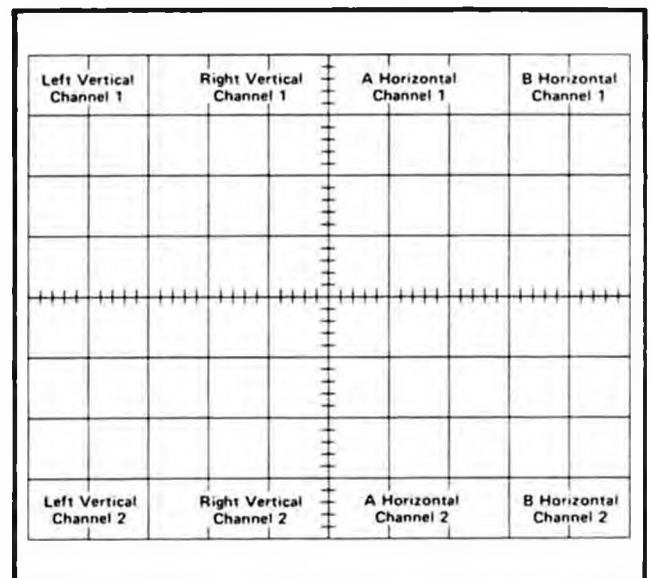

Fig. 3-37. Location of readout words on the CRT identifying the originating plug-in and channel (one complete frame shown, simulated readout).
**Frame**—A frame is a display of all words for a given operating mode and plug-in combination. Up to eight words can be displayed in one frame. Fig. 3-37 shows one complete frame (simulated readout) and the position at which each of the eight words is displayed.
**Display Format.** Up to eight words of readout information can be displayed on the 7704 CRT. The position of each word is fixed and is directly related to the plug-in unit from which it originated. Fig. 3-37 shows the area of the graticule where the readout from each plug-in unit is displayed. Notice that channel 1 of each plug-in unit is displayed within the top division of the CRT and channel 2
The Character Generator stage produces the characters which are displayed on the CRT. Any of the 50 characters shown on the Character Selection Matrix of Fig. 3-37 can be addressed by proper selection of the column and row current. Only one character is addressable in any one time-slot; a space can be added into the displayed word by the Decimal Point Logic and Character Position Counter stage when encoded by the plug-in. The latter stage counts how many characters have been generated and produces an output current to step the display one character position to the right for each character. In addition, the character position is advanced once during each of time-slots 1, 2 and 3 whether a character is generated during these time-slots or not. This action fixes the starting point of the standard-format display such that the first digit of the scaling factor always starts at the same point within each word regardless of the encoded information in time-slot 2 (normal/invert) or time-slot 3 (cal/uncal) which precedes this digit. Also, by encoding row 10 and column 0 during any time-slot, a blank space can be added to the display. Decimal points can be added to the display at any time by addressing row 7 and columns 3 through 7 (see Character Selection Matrix for location of these decimal points). The Decimal Point Logic and Character Position Counter stage is reset after each word by the Word Trigger pulse.